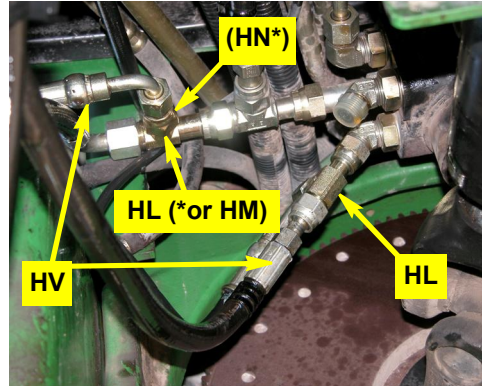
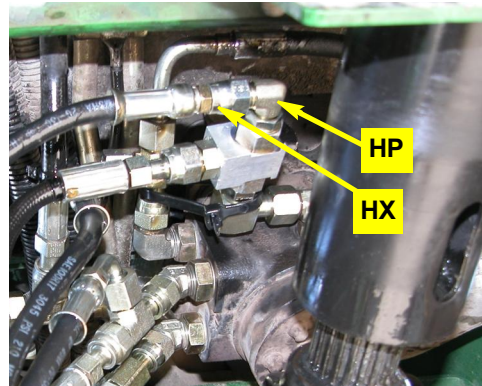
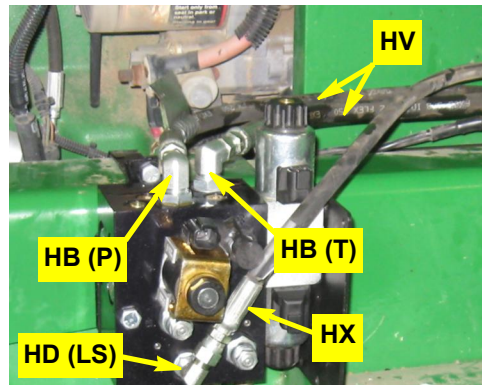

Figure 6a: Pressure and tank hoses connected at the run-tees at the orbital
Figure 6b: Load sense hose connected at the load sense valve at the orbital
Figure 6c: Pressure, tank and load sense hoses connected at the steering block
- a. Install pressure and tank hoses **HV** between the open stems of run-tees **HL** (or **HL** and **HM\***) installed at the orbital in step 4c (Figure 6a) and fittings **HB** in the **P** and **T** ports on the top (as mounted) of the hydraulic steering block (Figure 6c). \*If you used the bigger run-tee **HM** for the tank line, use adapter **HN** between the hose and the run-tee.
- b. Install load sense hose **HX** between fitting **HP** in the load sense shuttle valve (Figure 6b) and the fitting **HD** in **LS** port of the hydraulic steering block (Figure 6c).